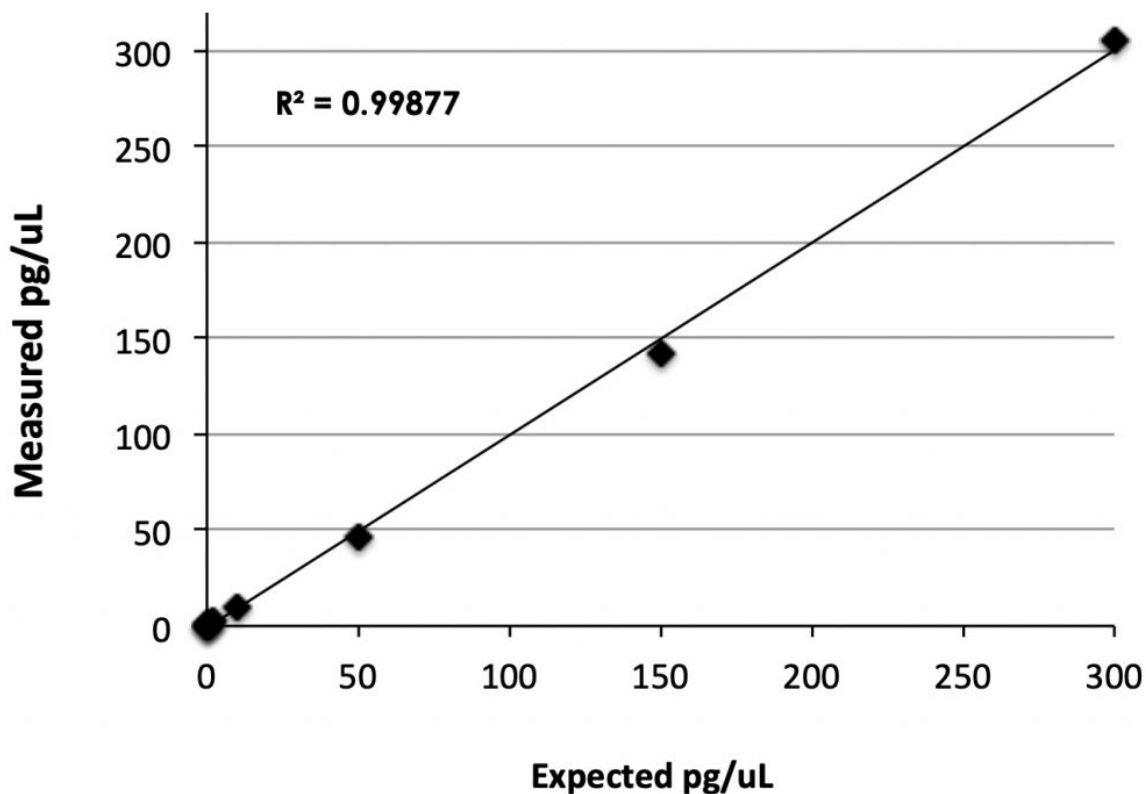

Figure 2: Standard range using 10 μ L of sample in 200 μ L of dye reagent.
- Plot the fluorescence RFU values for the DNA standards on the y-axis and pg/well DNA on the x-axis, and fit a trend line (Figure 2) through these points to generate a standard curve with a y-intercept = 0.